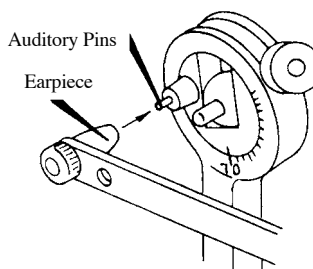

Figure 12A
11. The Earpieces represent the external auditory meatus and they have small vent holes in their ends. These Earpieces suspend the Bow directly over the Auditory Pins on the HANAU™ 96H2 and HANAU-MATE® Series of Articulators, Figure 12A.